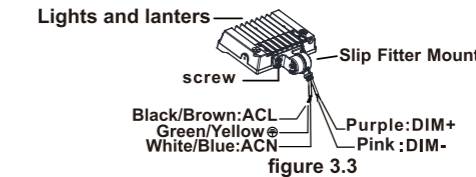

figure 3.3
Step 2: Finish the wire connection according to the right mode of connection (pay attention to positive wire, negative wire, and ground wire), and then put wire into lamp pole; (figure 3.3)